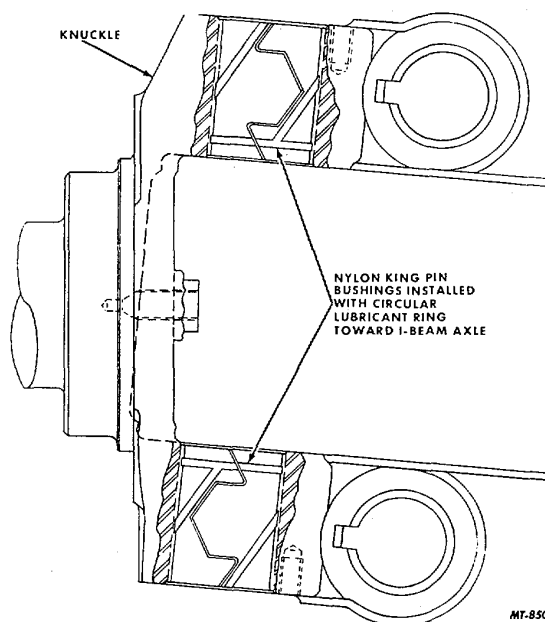

Fig.8
3. Place new bushings in knuckle. **NOTE:** Circular lubricant spreader ring on inside of nylon bushing is always to be positioned toward the I-beam axle (refer to bushing installation diagram, Fig. 8).